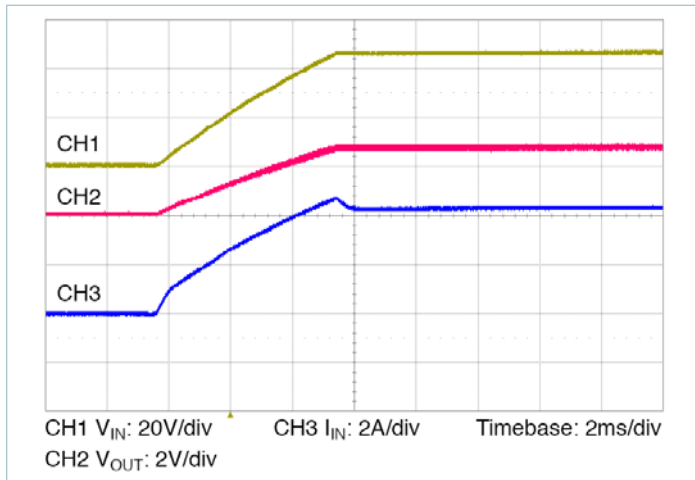

Figure 13 — Start up from application of  $V_{IN}$ ; VC pre-applied  $C_{OUT} = 16000\mu\text{F}$
- **Normal operation (VC applied prior to  $V_{IN}$ ):** In this case the controller is active prior to ramping the input. When the input voltage is applied, the VTM module output voltage will track the input (See Figure 13). The inrush current is determined by the input voltage rate of rise and output capacitance. If the VC voltage is removed prior to the input reaching 26V, the VTM may shut down.